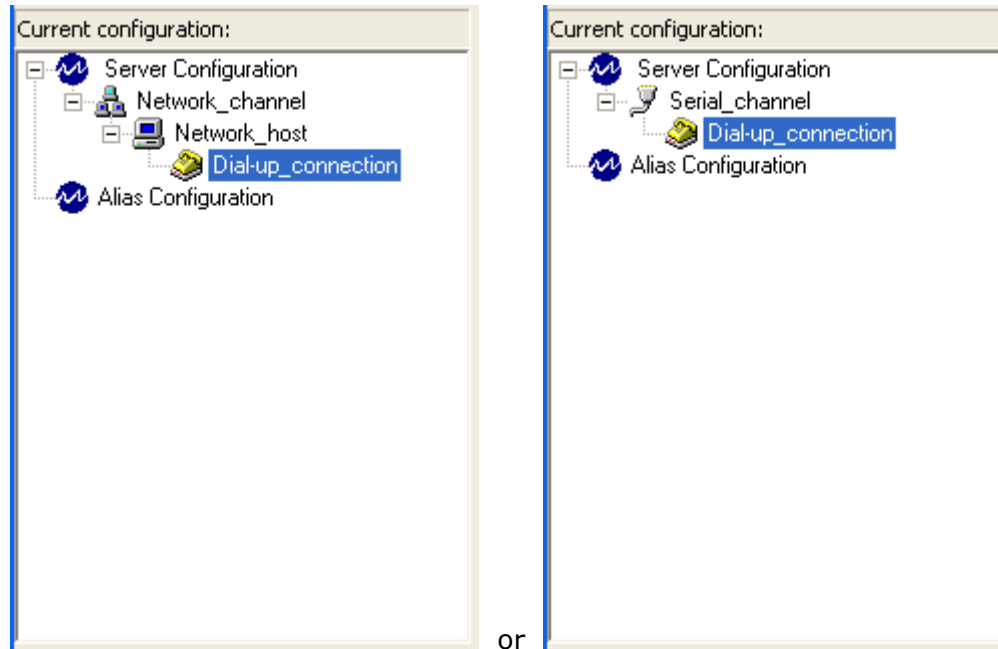

Figure 35 - New Dial-Up Connection Object
8. Click on the **OK** button. The object is created and will appear either as a child of the **Network Host** or **Serial Channel** item as shown in Figure 35 (depending on what the selected parent item was).